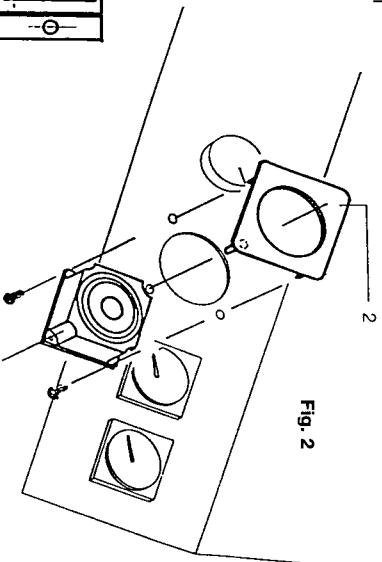

Fig. 2
Insert the clock into the aperture from the back of the control panel. Push the mounting bezel (2) through the front panel and secure to the clock using the four screws provided. (fig. 2).